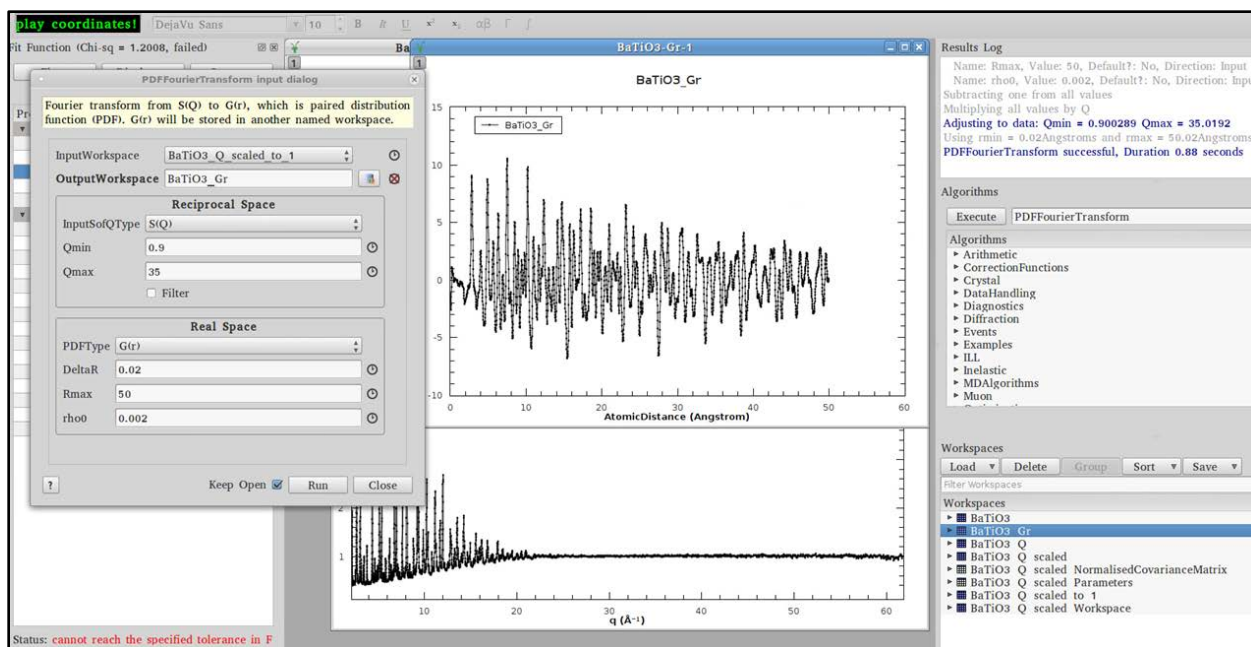

Figure 10. PDFFourierTransform dialog box.
8. Execute the “PDFFourierTransform” algorithm (Figure 10). InputSofQType should be **S(Q)** and PDFType should be **G(r)**. Select appropriate values of Qmin and Qmax. Using the Keep Open checkbox will allow you to easily test different values of Qmin and Qmax.